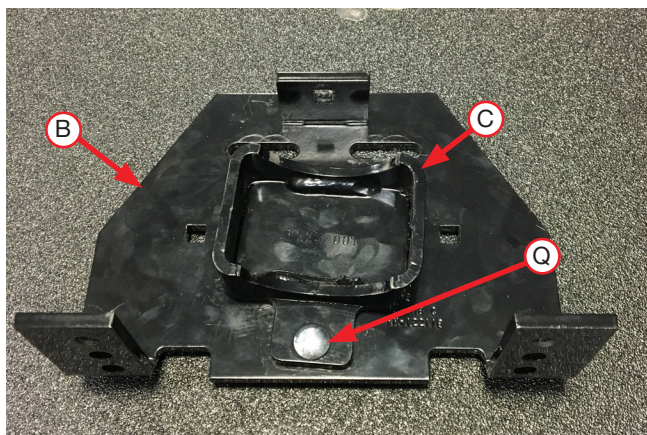
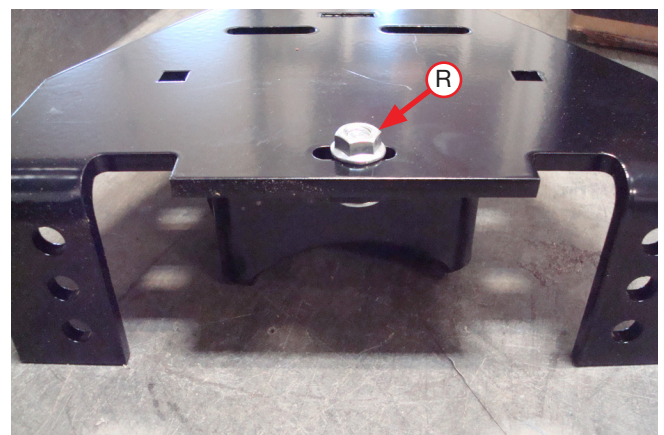

Fig. 10
Fig. 11
- Install the lower bracket cup (C) onto the lower bracket (B) using a 5/16"-18 x 3/4" carriage bolt (Q) (Fig. 10). Cap with a 5/16"-18 serrated flange lock nut (R) (Fig. 11). Snug the bolt, but leave loose enough for the bracket to move freely in the slot.